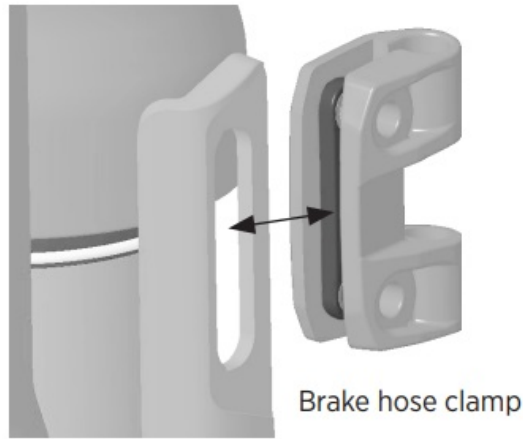

Figure 12: Install clamp onto mast
1. Install the brake hose clamp onto the slotted opening of the mast (Figure 12). Verify that the protrusion on the clamp is fully installed in the slot of the guard.